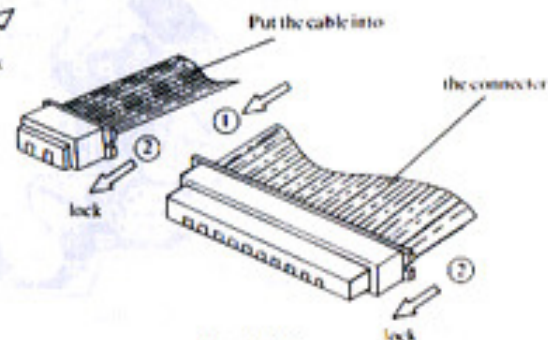

Figure 10-14
- Next, connect the cables in to the connectors, and lock the connectors. (Refer to Figure 10-14)